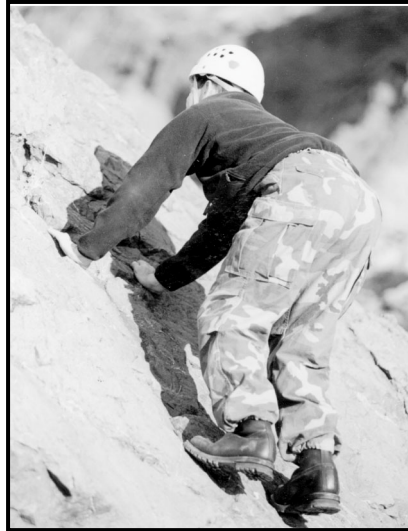

Figure 6-17. Slab technique.
(6) **Slab Technique.** A slab is a relatively smooth, low-angled rock formation that requires a slightly modified climbing technique (Figure 6-17). Since slab rock normally contains few, if any holds, the technique requires maximum friction and perfect balance over the feet.